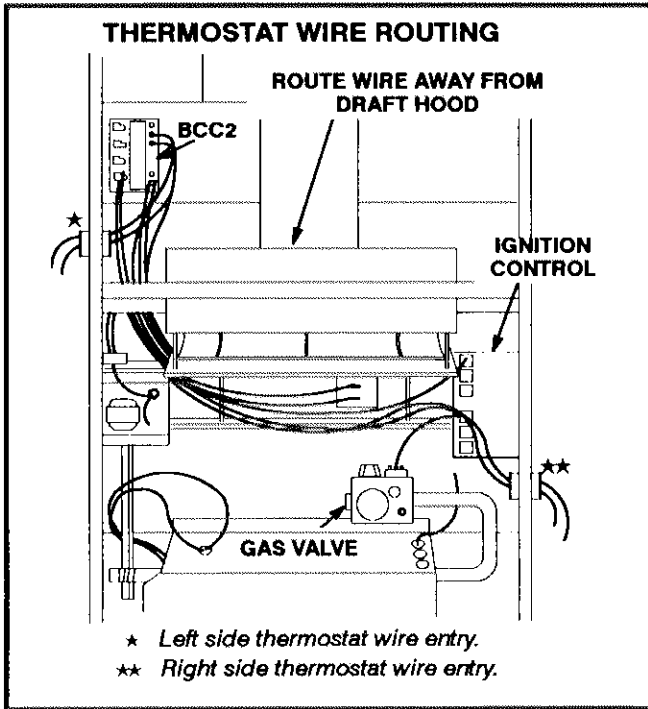
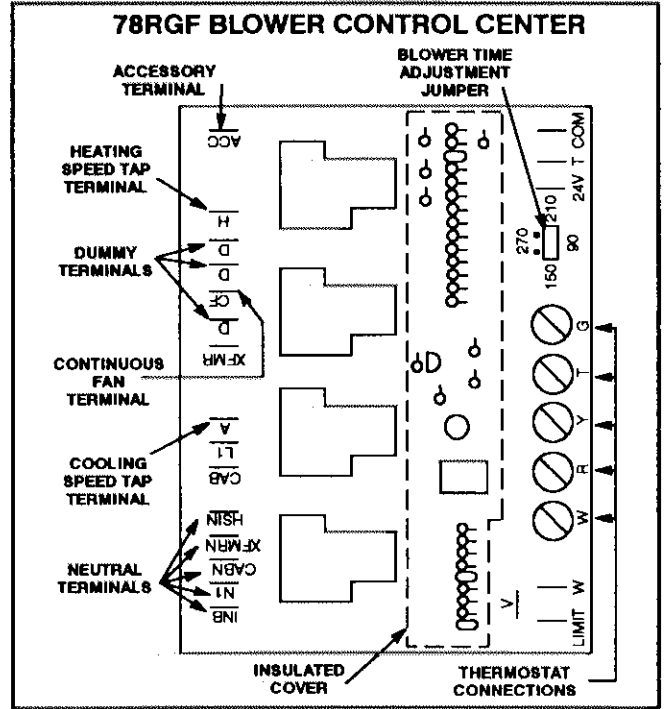
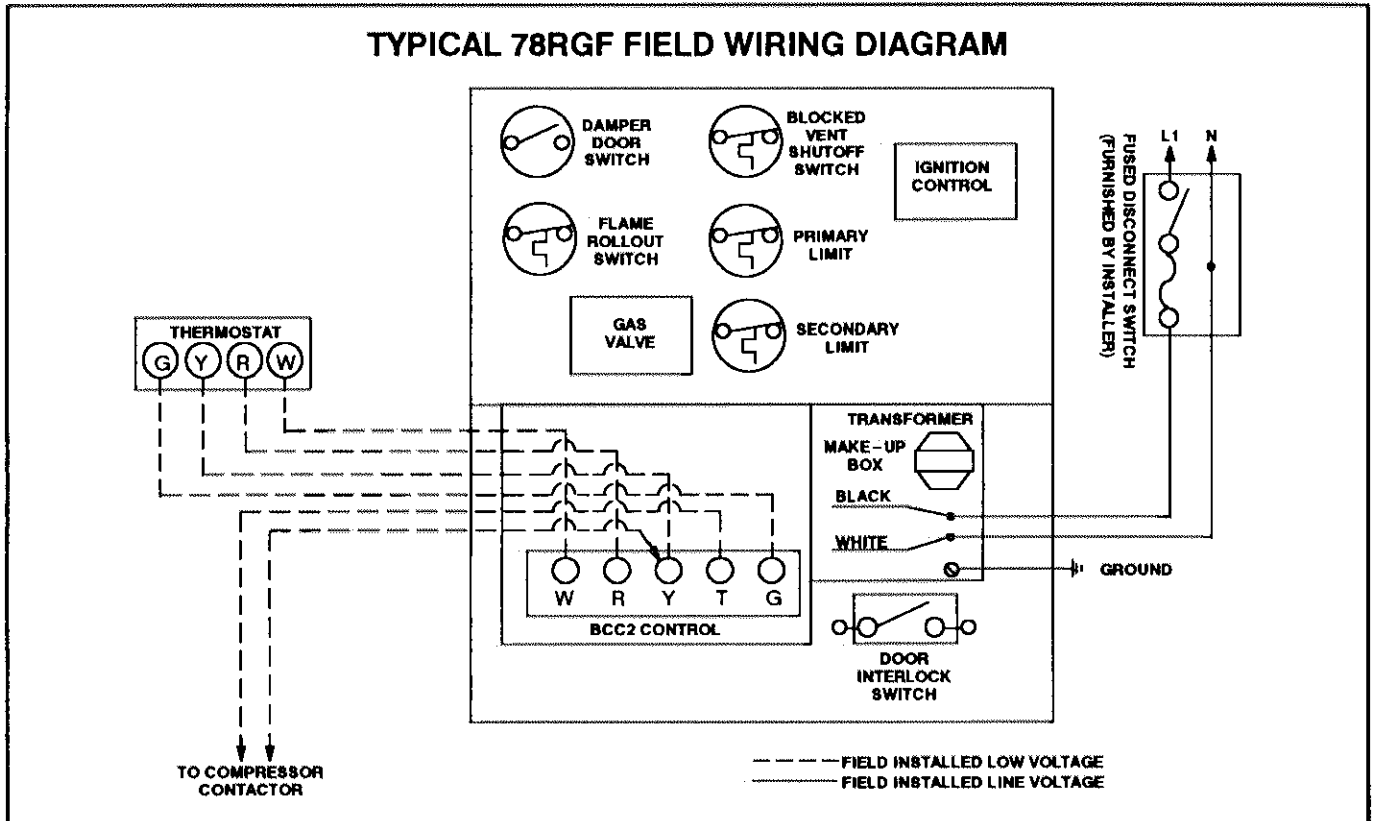

FIGURE 12
FIGURE 13
FIGURE 14
Refer to figure 12 for thermostat wiring, figure 13 for BCC2 location, figure 14 for point to point field wiring and figure 15 for schematic wiring diagram and troubleshooting.
- 5- Route thermostat wire as shown in figure 12. Keep wire away from draft hood and flue pipe. Do not route wire across draft hood.
- 6- Complete wiring connections to equipment using wiring diagrams provided with unit and in figures 13 and 15. Use 18 gauge wire or larger for thermostat connections.
- 8- A 120 volt accessory terminal (ACC) is provided on the BCC2 blower control center. Any accessory rated up to 1 amp can be connected to this terminal and the neutral leg of the accessory can be attached to any free 120 volt neutral terminal on the BCC2 blower control center. The accessory terminal is energized whenever the blower is in operation. See figure 13. A troubleshooting flowchart for the BCC2 blower control is located at the end of this manual.
- 9- The continuous fan (CF) 120 volt terminal is used with an optional continuous low fan kit that is available from Lennox. The kit allows the furnace blower to run continuously on low speed.